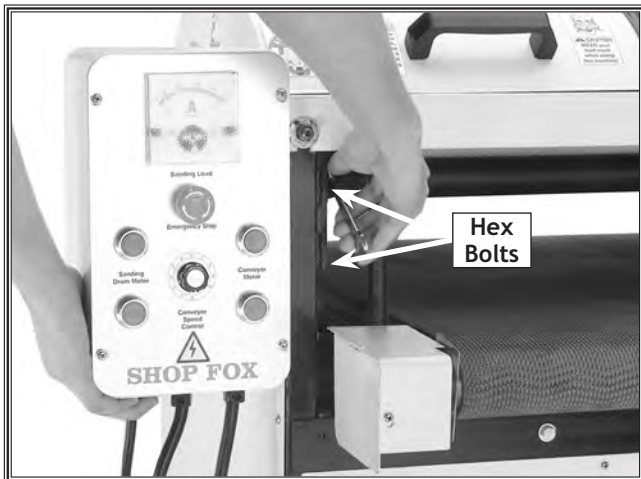

Figure 14. Installing new hex bolts and washers.
1. Remove the L-brackets, bolts, and washers securing the control box to the back of the sander. See **Figure 14**.
2. Position the control box on the sander and secure with (2) 3/8" flat washers and (2) 3/8"-16 X 2" hex bolts.
3. Tighten the bolts. See **Figure 14**.